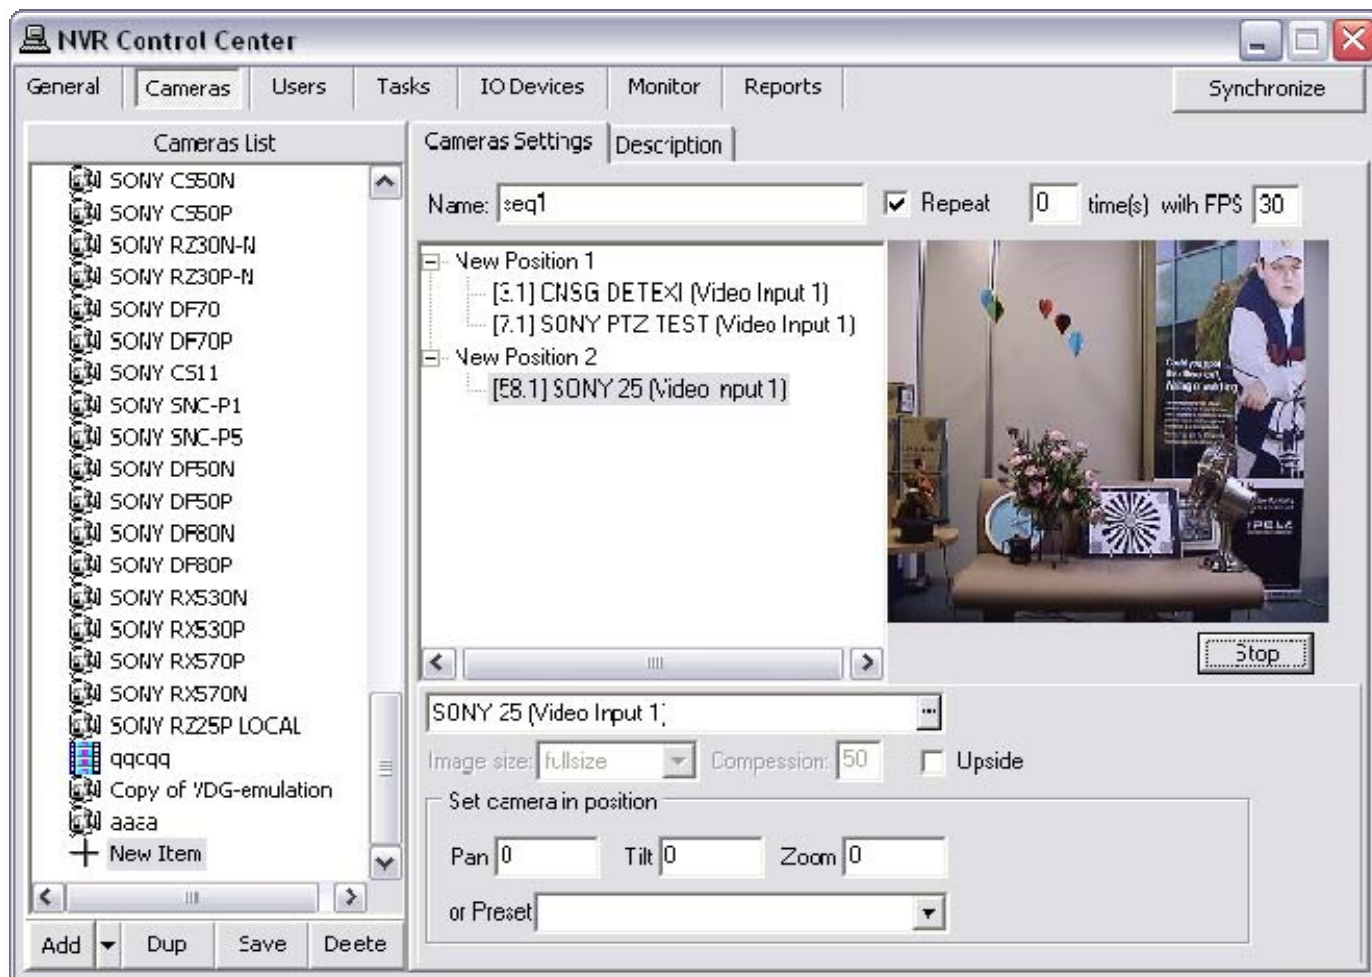

Fig 42. NVR Control Center — Cameras — Cameras Settings
5. Add more cameras to the sequence position if necessary — repeat steps 6-7 (Fig 42).